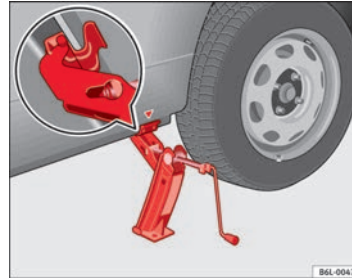

Fig. 147 Fitting the jack
- Align the jack so that the arm of the jack fits around the rib under the door sill and the movable base plate of the jack is flat on the ground ⇒ Fig. 147.